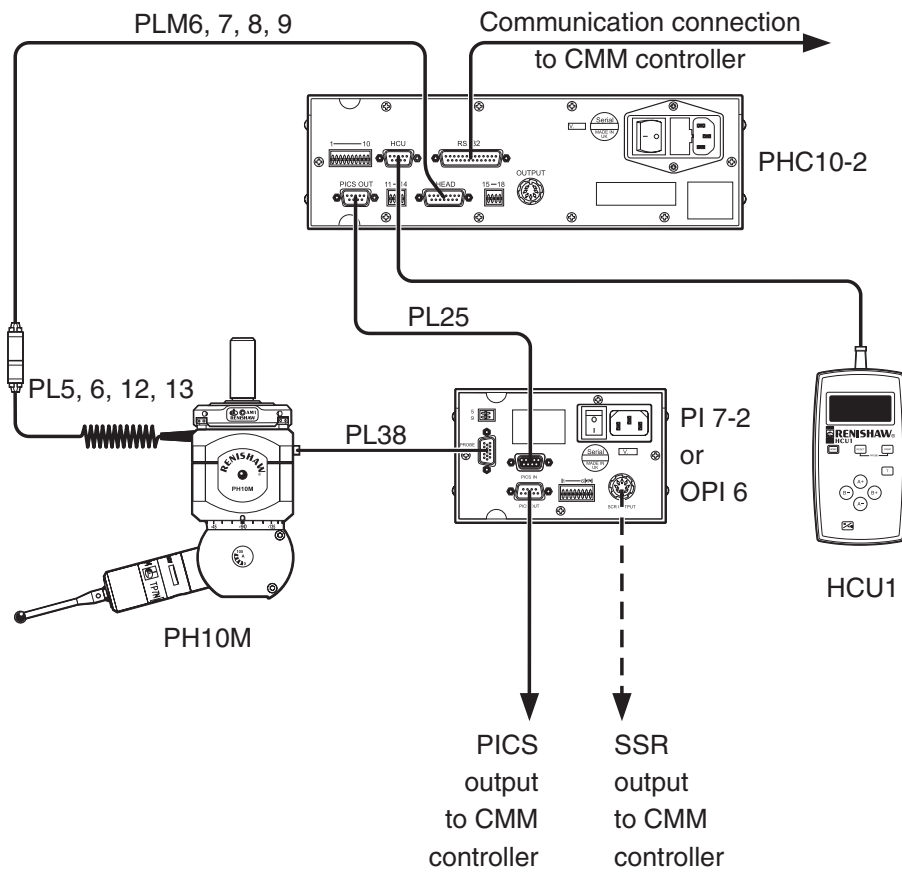

Figure 24 - PH10 system with multiwired probes
- The PH10M system with multiwired probes (see figure 24 and table 23)